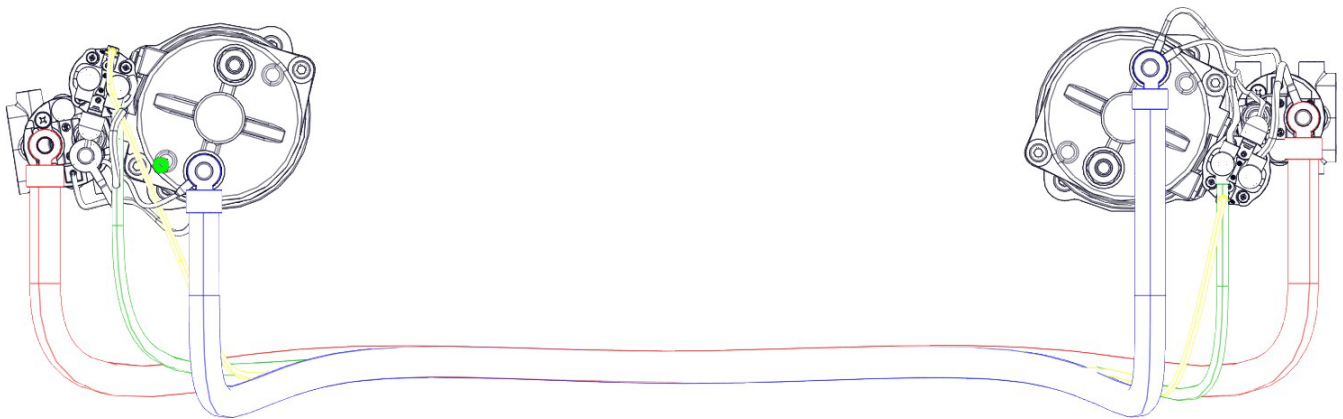

Figure 172. Starter Motor Wire Assembly
5. Reconnect the four starter wires (Figure 172).